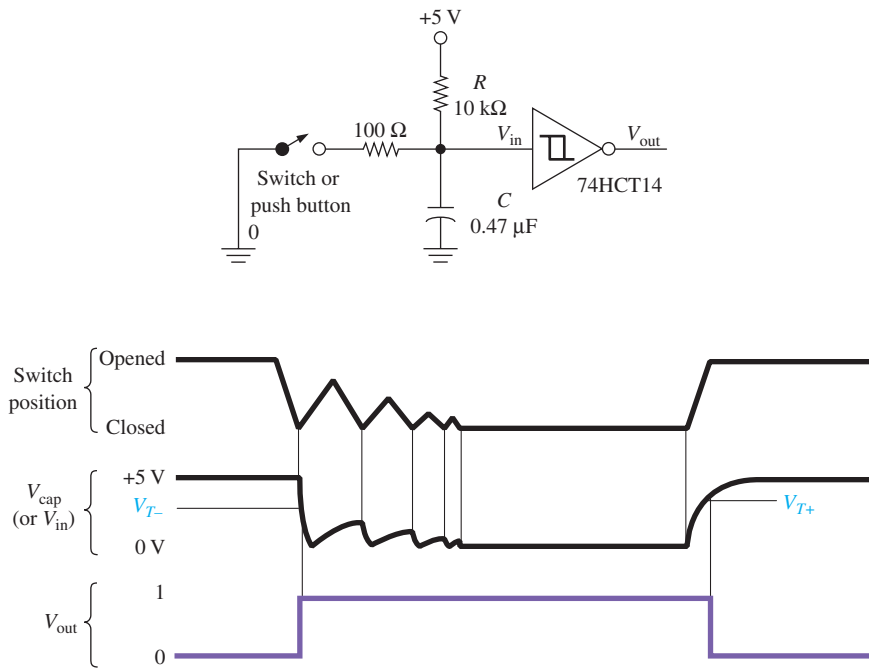

Figure 39 Schmitt method of debouncing a single-pole, single-throw switch.
There are several ways to eliminate the effects of switch bounce. If you need to debounce a single-pole, single-throw switch or push button, the Schmitt trigger scheme shown in Figure 39 can be used. With the switch open, the capacitor will be charged to +5 V (1), keeping $V_{out} = 0$. When the switch is closed, the capacitor will discharge rapidly to zero via the 100- Ω current-limiting resistor, making V_{out} equal to 1. Then, as the switch bounces, the capacitor will repeatedly try to charge slowly back up to a HIGH and then discharge rapidly to zero. The RC charging time constant ($10\text{ k}\Omega \times 0.47\text{ }\mu\text{F}$) is long enough that the capacitor will not get the chance to charge up high enough (above V_{T+}) before the switch bounces back to the closed position. This keeps V_{out} equal to 1.
When the switch is reopened, the capacitor is allowed to charge all the way up to +5 V. When it crosses V_{T+} , V_{out} will switch to 0, as shown in Figure 39. The result is that by closing the switch or push button once you will get only a single pulse at the output even though the switch is bouncing.